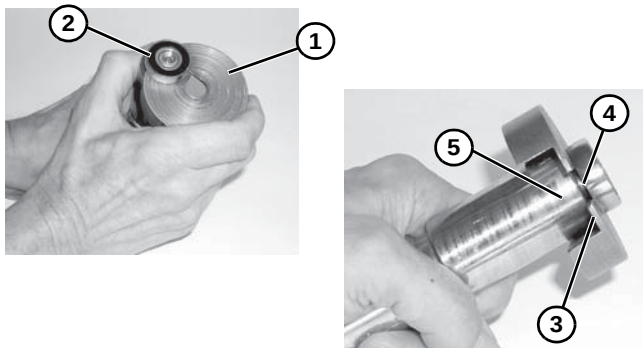

Figure 51
1. Place bearing removal tool part #456063 (**Figure 51, item 1**) below bearing (**Figure 51, item 2**) with lip (**Figure 51, item 3**) located in gap (**Figure 51, item 4**) between bearing and spindle hub (**Figure 51, item 5**) as shown.